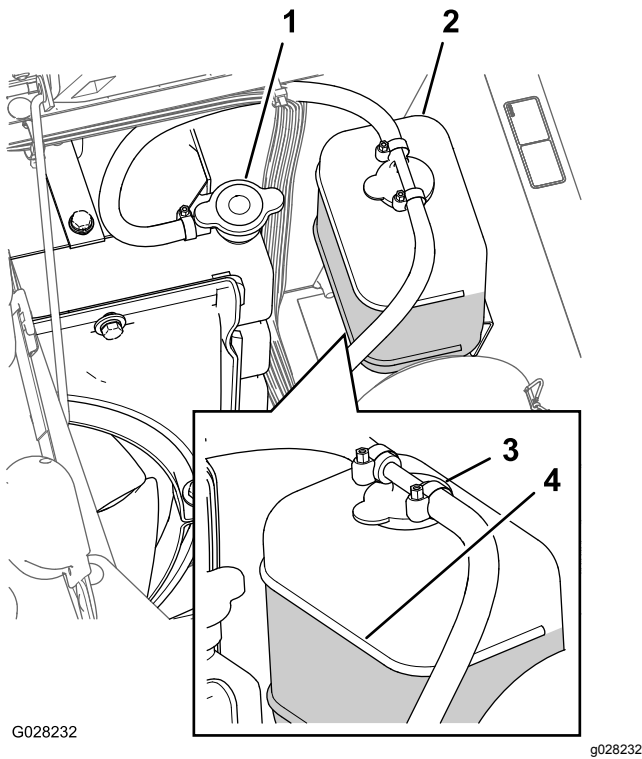

Figure 92
3. Carefully remove the radiator cap and the expansion-tank cap (Figure 92).
2. Wait until the engine is cool, then remove the radiator cap (Figure 92).
Note: The radiator should be filled to the top of the filler neck and the expansion tank filled to the Full mark on the tank (Figure 92).
5. If the coolant level is low, remove the expansion-tank cap and the radiator cap, and fill the expansion tank to the Full mark and the radiator to the top of the filler neck (Figure 92).
6. Install the radiator cap and the expansion-tank cap (Figure 92).
6. Remove the radiator cap (Figure 92).
8. Start the engine with the cap loose on the radiator (Figure 92).
10. Once the coolant has warmed up, top off the coolant level to the sealing surface of the cap and tighten the cap (Figure 92).
11. Open the expansion-tank cap and fill the tank with coolant to the Cold level (Figure 92).